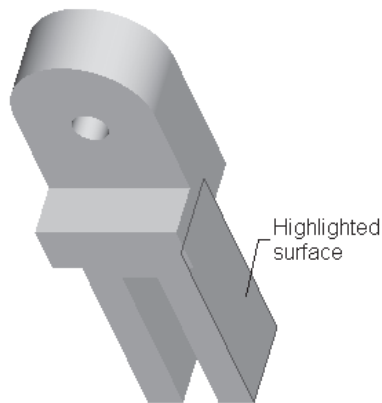

Figure 4-69 Sketching plane for hole feature
A through cut will be created on the outer right face of the third feature. The circular section for the cut will be sketched and using the **Remove Material** button in the **Extrude** dashboard, the circular cut will be created. The sketching plane for the cut feature is shown in Figure 4-69.
4. Select the face shown in Figure 4-69 for sketching.